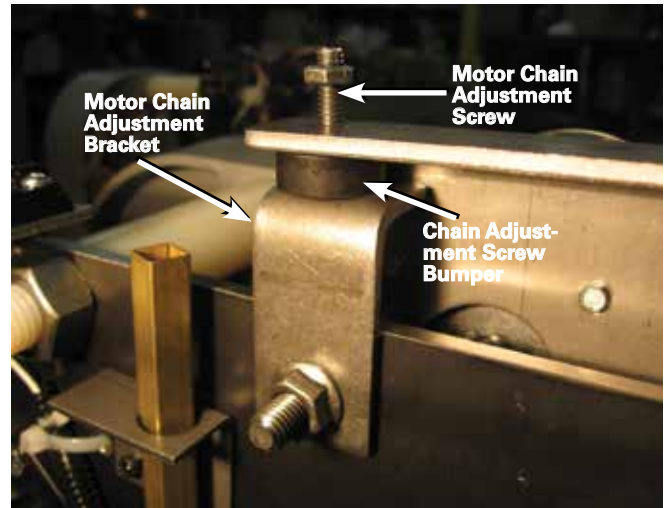
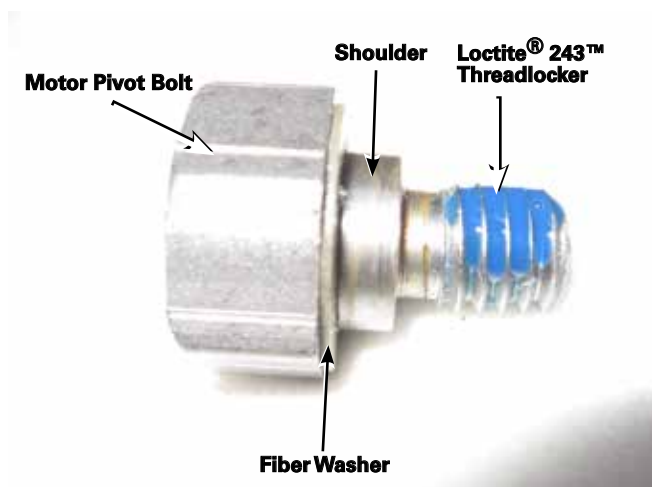
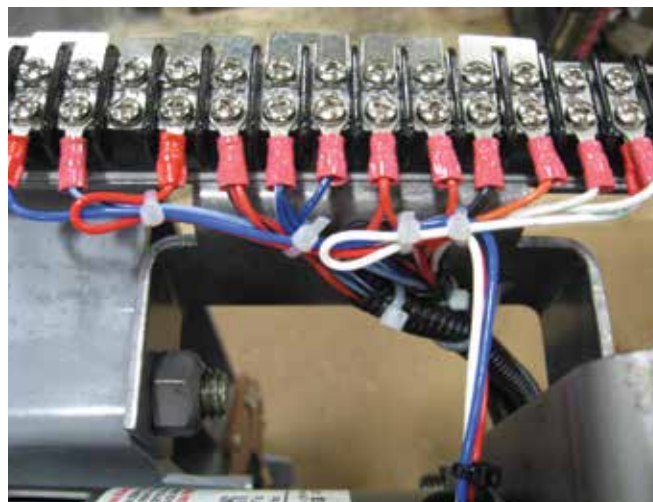

Figure 15. Motor positioning.
Figure 17. Motor pivot bolt.
Figure 21. Wire fastening.
- Move the motor assembly into position with the motor chain adjustment screw bumper located on top of the adjustment bracket and the motor pivot stud inserted through the mounting hole in the motor mounting plate. Secure the motor mounting plate to the motor pivot stud with the locknut removed in Step 6. Refer to Figures 15 and 16. Using a torque wrench with a 9/16" socket, tighten the pivot motor stud locknut to 180–192 in-lbs (20.0–21.1 Nm). Proceed to Step 16.
- Apply Loctite® 243™ Threadlocker on the threads of the motor pivot bolt and verify the fiber washer is still located on the motor pivot bolt shoulder. Refer to Figure 17. Move the motor assembly into position with the motor chain adjustment screw bumper located on top of the adjustment bracket. Refer to Figure 15. Align the hole in the motor mounting plate with the hex spacer hole. Insert the motor pivot bolt through the motor mounting plate and hand tighten into the hex spacer. Refer to Figure 21. Make sure that the shoulder on the bolt is completely inserted through the hole in the motor mounting bracket. Using a torque wrench with a 3/4" socket, tighten the motor pivot bolt to 45–55 in-lbs (5.0–6.1 Nm).
18. Use the wire ties provided in the motor replacement kit to bundle all the wires near the terminal board to complete the motor replacement procedure. Refer to Figure 21.